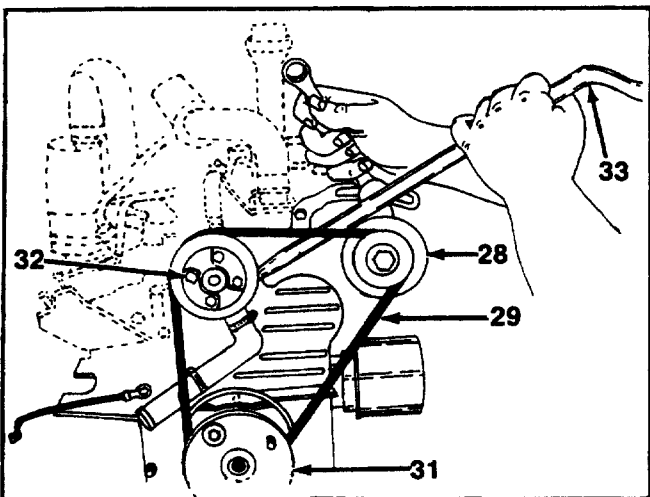

FIGURE 20.
18. With a pry bar and wrench, loosen the hex bolt at alternator bracket. See figure 20. Remove the alternator belt.